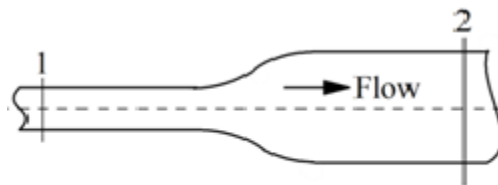

Figure 1(a)
- 02. (a) The inside diameters of the pipe at sections 1 and 2 shown in the figure 1(a) are 50 mm and 100 mm, respectively. Water is flowing with an average velocity of 8.0 m/s at section 1.